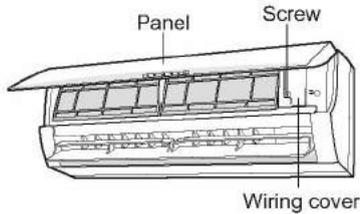

Fig.11
(1) Open the panel, remove the screw on the wiring cover and then take down the cover. (As show in Fig. 11)